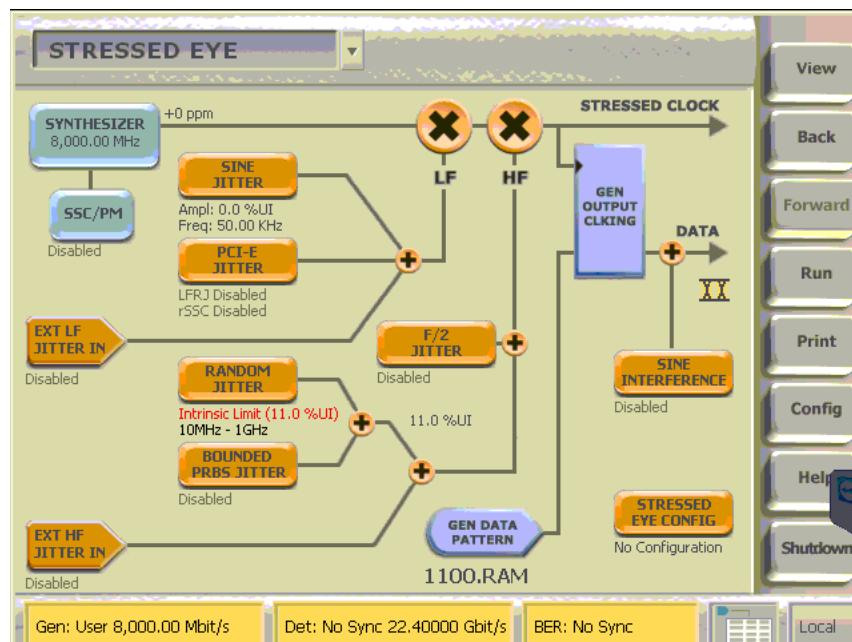

FIGURE 46. BERTSCOPE JITTER SETUP
- Set the SJ Enable, Set the SJ Amplitude to 0.0mV. See Figure 46.